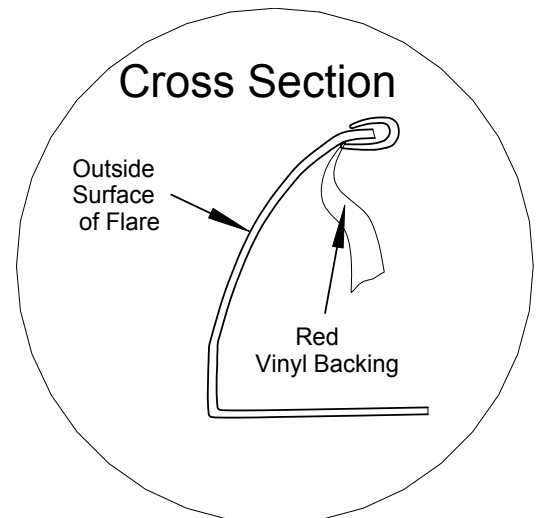

FIGURE 1
- (A) Sanding before application of paint is optional.
- (B) Clean outer surface with a good grade degreaser. **Do not use** lacquer thinner or enamel reducer as a degreaser. Wipe outer surface thoroughly with a tack rag prior to painting.
- (C) Paint flares using a high quality lacquer, enamel, or polyurethane automotive paint. Application of a primer coat is optional. Painting edge trim is not recommended.
Step 2: Edge Trim Installation (See FIGURE 1)
- (A) The 19' roll of edge trim that is included with each kit needs to be cut to the following lengths: two 51" pieces and two 64" pieces.
- (B) Peel two to three inches of red vinyl backing away from edge trim tape. Applying the adhesive side of the edge trim to the inner side of the flare, affix the edge trim to the top edge of the flare (the portion that comes in contact with the side of the vehicle).
- (C) Press edge trim into place along the top edge of the flare in one-foot increments, pulling red vinyl backing free as you continue to work your way around the top edge of the flare. Remove any excess edge trim.